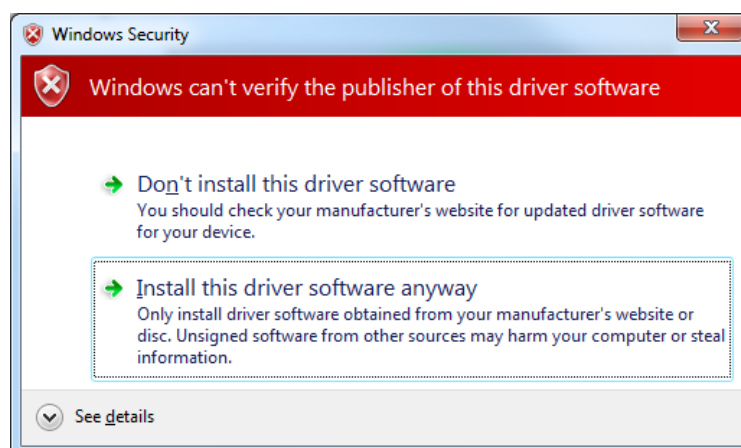

Figure 4 USB Driver Installation Message Box
- Install the USB driver when requested. The driver is in the same folder where the '**ES9942xx.zip**' files were extracted to, in directory '**.\Driver**'. Follow instructions on the screen to install the USB driver. Click 'Install this driver software anyway' when the Message Box in Figure 4 is shown.